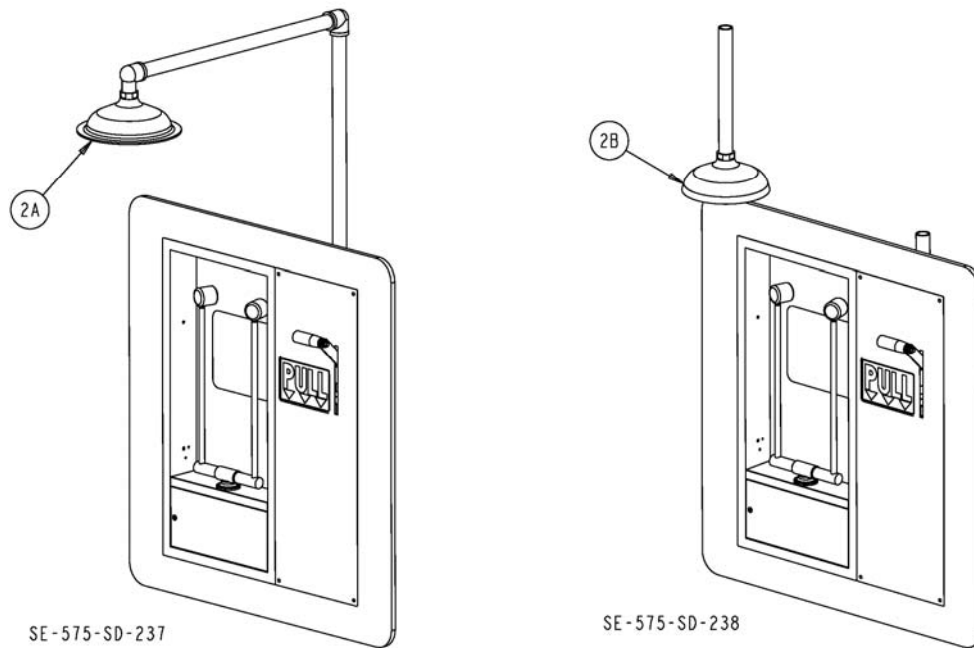

FIG. 3
4. Assemble shower head to supply piping accordingly. Drop down design for the SE-575-SD-238, and ceiling mount for the SE-575-SD-237. **Make note that ANSI specifies that showerhead must be 82"-96" from the surface on which the user stands.** Use pipe dope or thread sealant on all pipe thread connections. See shower head differences in Fig. 3.